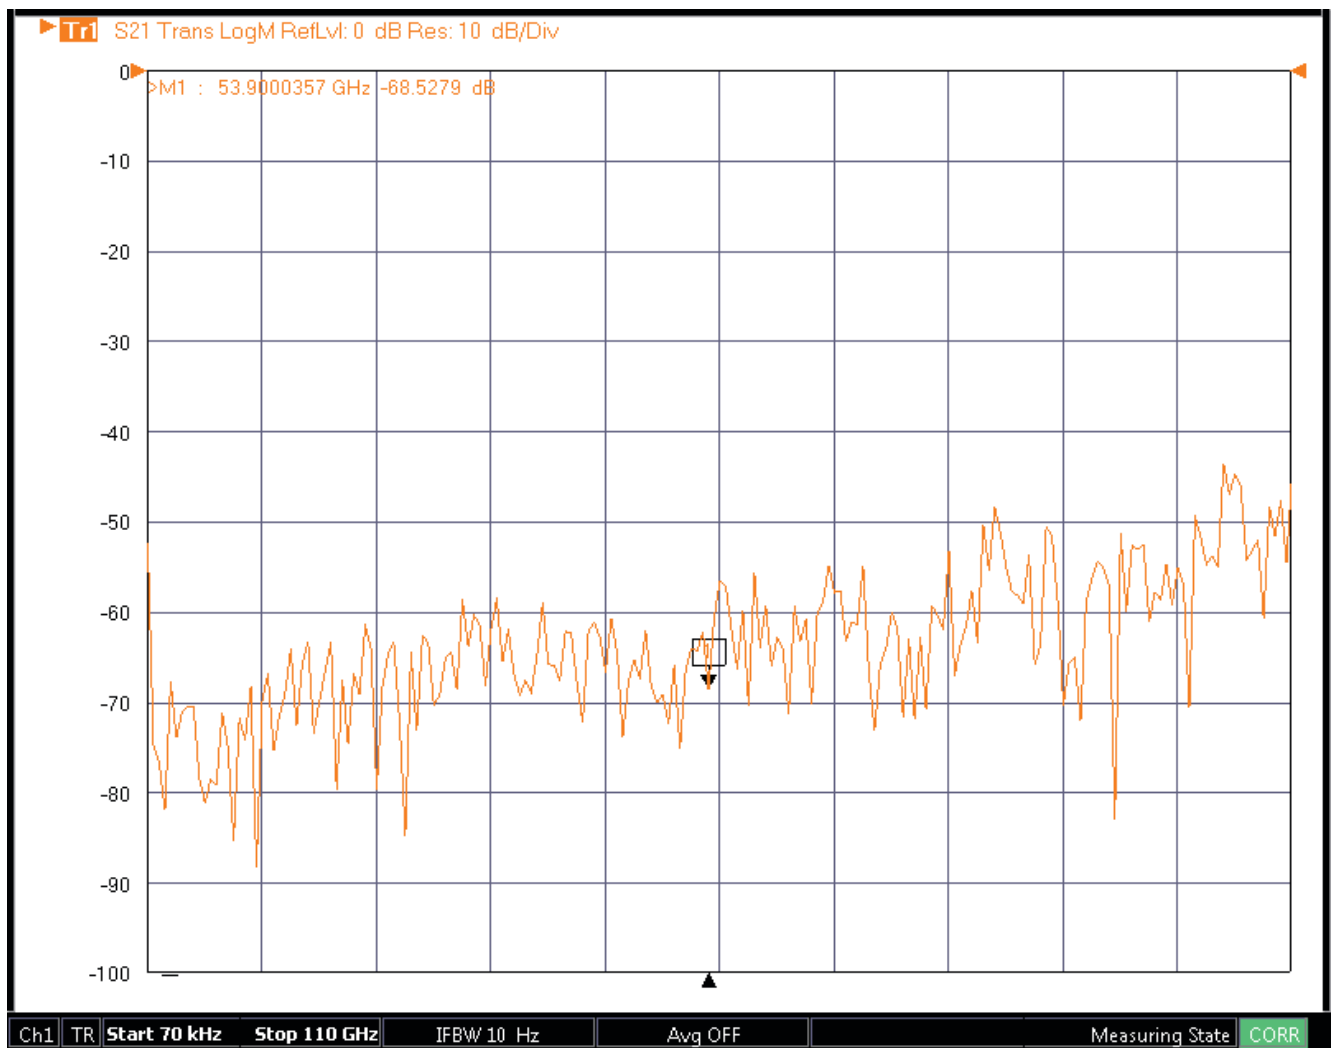

Figure 3-12. Typical Noise Floor Display—Reference Only
- a. Click on Reference Position and set it to 10. The screen should look like Figure 3-12 (the frequency list used in the plot is different from that set up in this procedure, but the overall shape of the curve should be similar).